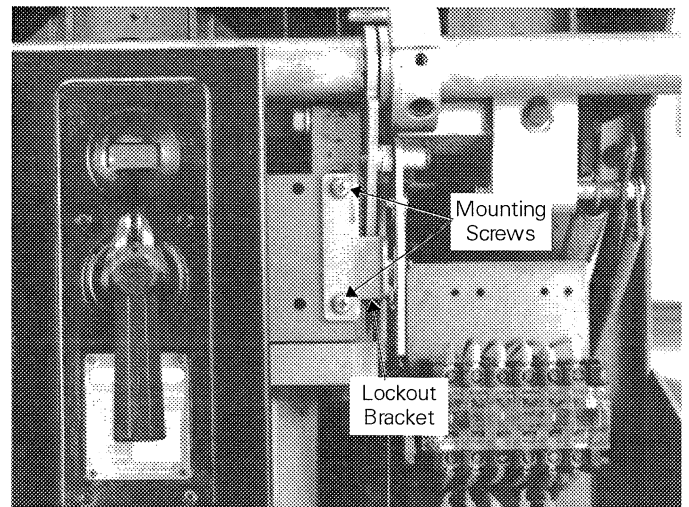

Figure 14. Lockout bracket on the front of the breaker.
2. Remove and save the two Philips-head screws and lock washers securing the lockout bracket, shown in Figure 14, to the front of the breaker.